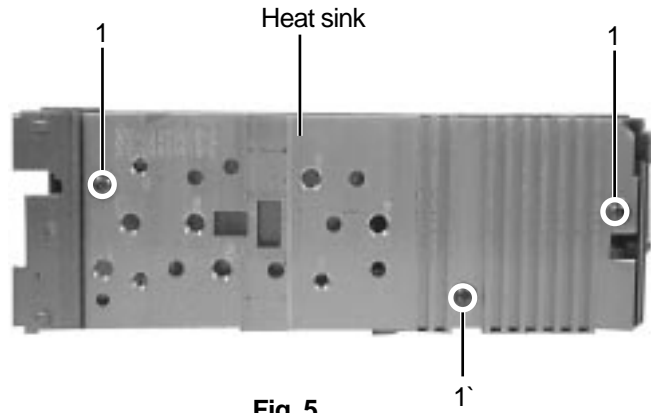

Fig. 5
■ **Removing the heat sink (See Fig. 5)**
(See Fig. 5 to 7)